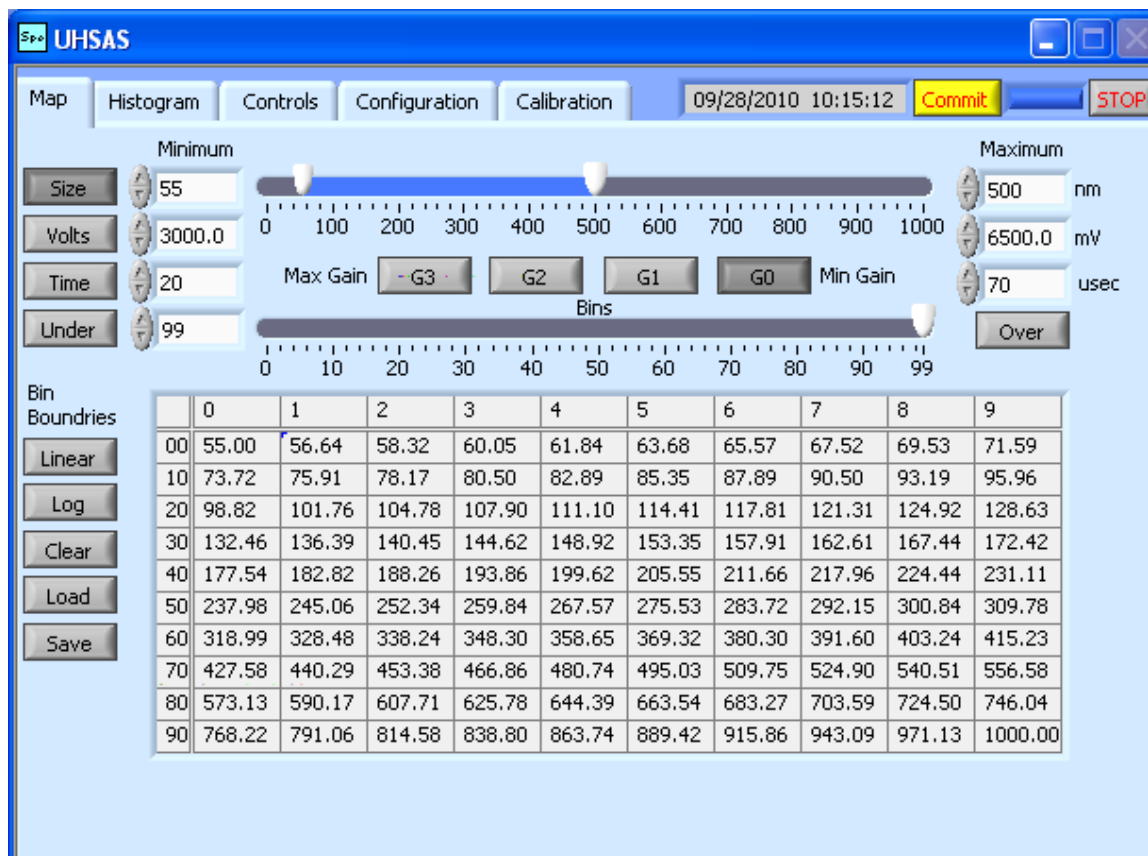

Figure 24: Map Tab with Password-Protected Options
1. Choose size, volts, or time as the binning criteria using the buttons in the upper left of the screen. Note that you must enter a password on the **Configuration** tab to enable the **Volts** and **Time** buttons; see Figure 24.